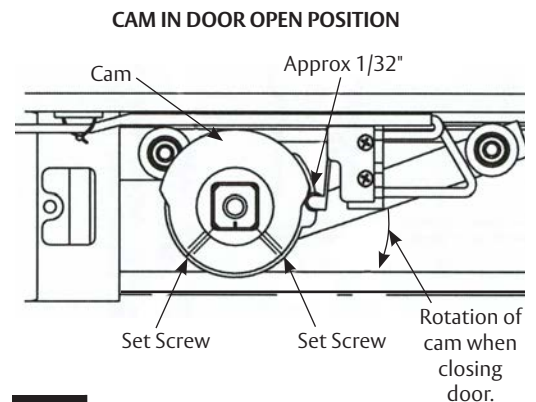

Figure 9
- Open door to desired holding position and hold open with door stop. Rotate cam until switch roller is on lower section of cam and approximately 1/32" from bottom of incline. (Figure 9) Cam should be positioned so when door closes, roller on switch will ride up incline of cam operating the switch. Tighten on set screw in cam with hex key and pull door closed.